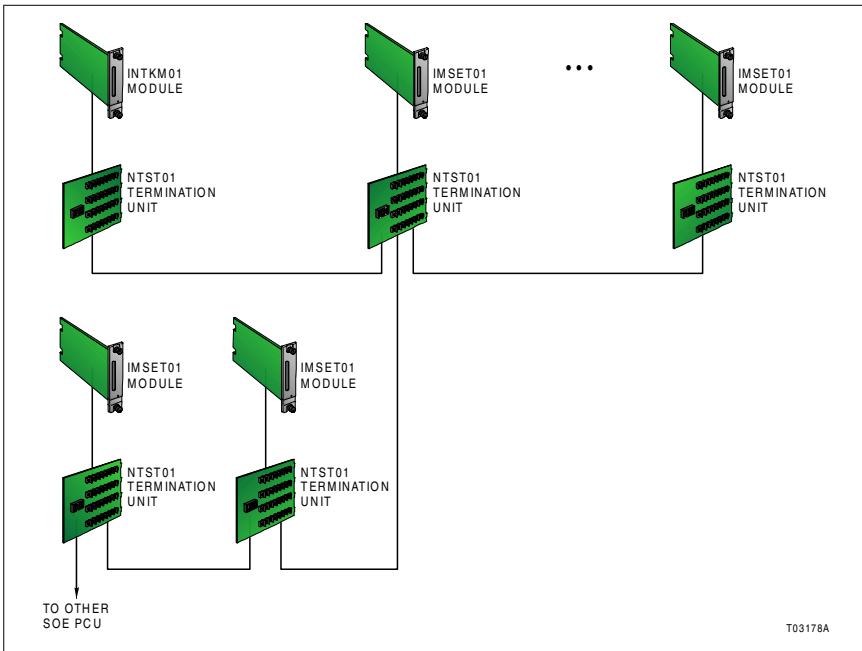

Figure 2-7. Mixed Time-Sync Link Connection
- Mixed mode - A combination of sequential and star mode (Fig. 2-7).